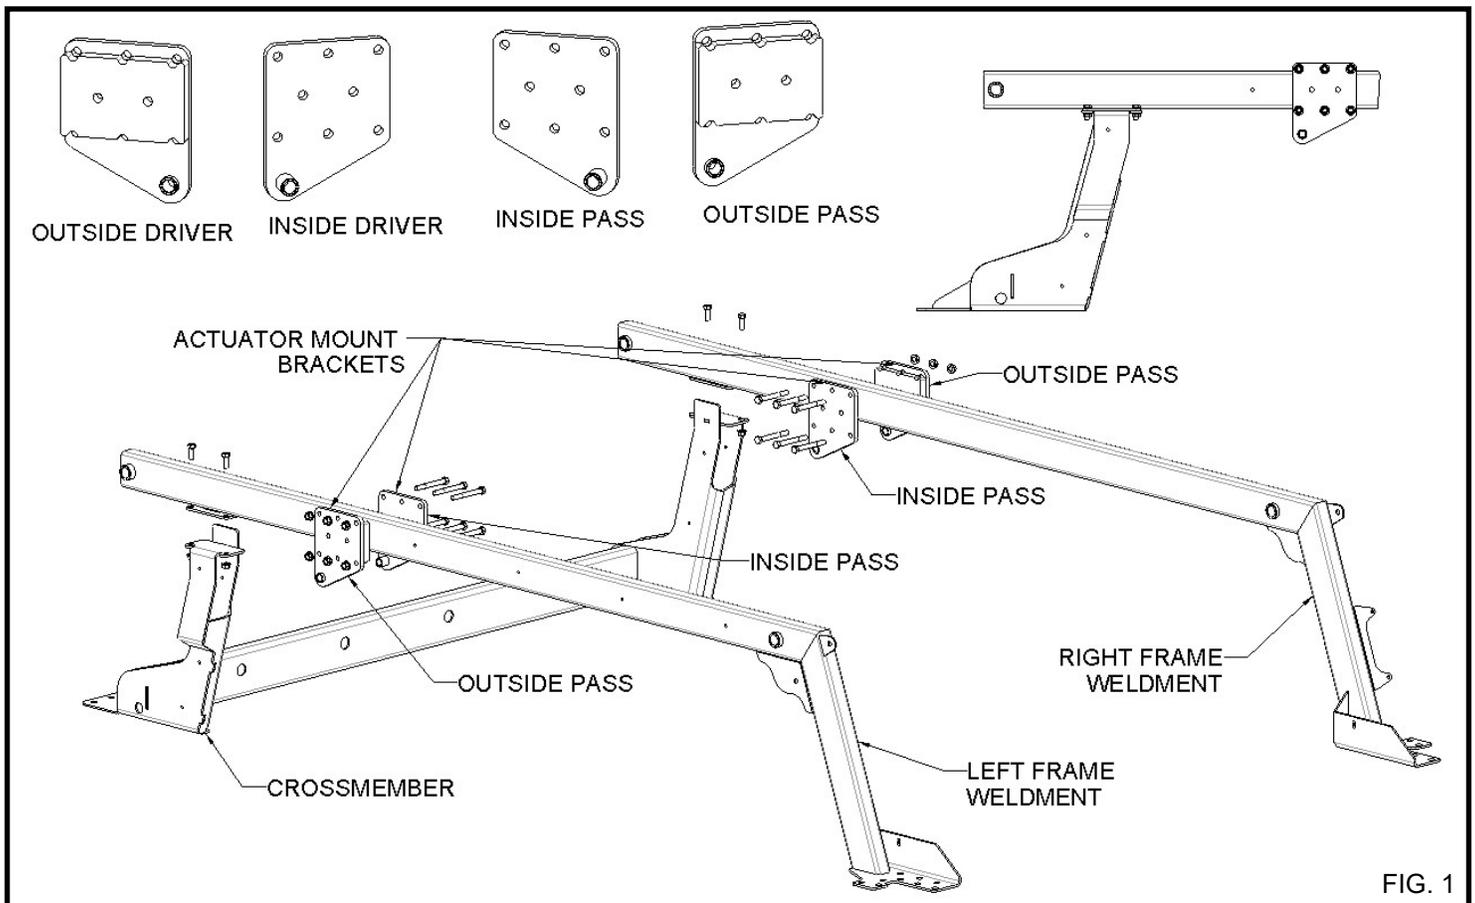

FIG. 1
- 6.2. Inside the vehicle, assemble the left and right frame weldments to the crossmember using (4) 3/8 X 1 UNC bolts and (4) 3/8 serrated flange nuts as shown in **FIG.1**. Finger tighten all attachment bolts. Final tightening will be completed following installation and adjustment of the torsion arm and tie-rods.
- 6.3. Assemble the actuator mount brackets to the right and left frame weldments, using (12) 3/8 X 3 UNC bolts and (12) 3/8 serrated flange nuts. See **FIG. 1** for the placement of the actuator mount brackets.
**NOTE:** The (4) actuator mount brackets are not interchangeable, and must be placed correctly for proper function.